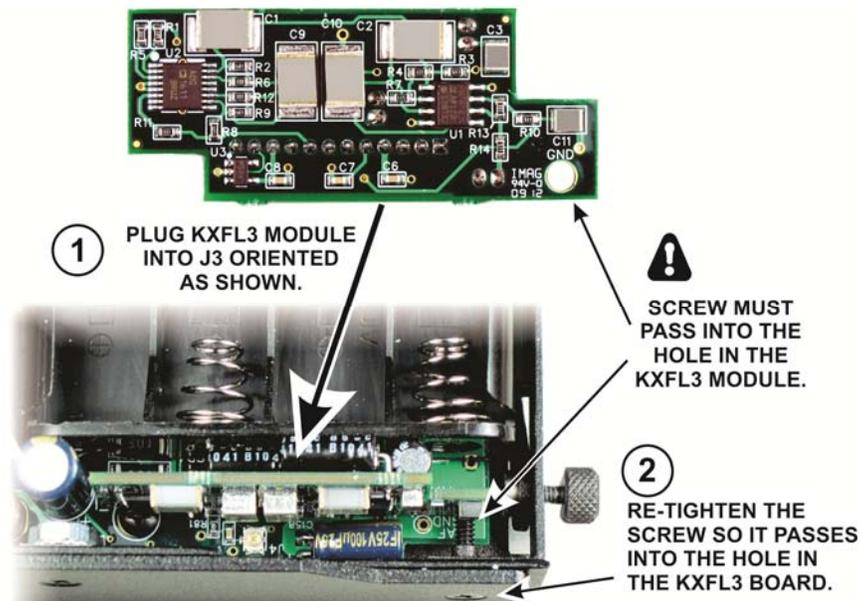

Figure 7. Replacing the KXFL3 module in the KX3.
- ☐ Replace the KXFL3 module in the KX3 and tighten the screw that retains the board as shown in Figure 7. The screw is there only to ensure the KXFL3 module cannot be dislodged by rough handling of the KX3. It does not provide a ground return or other function.